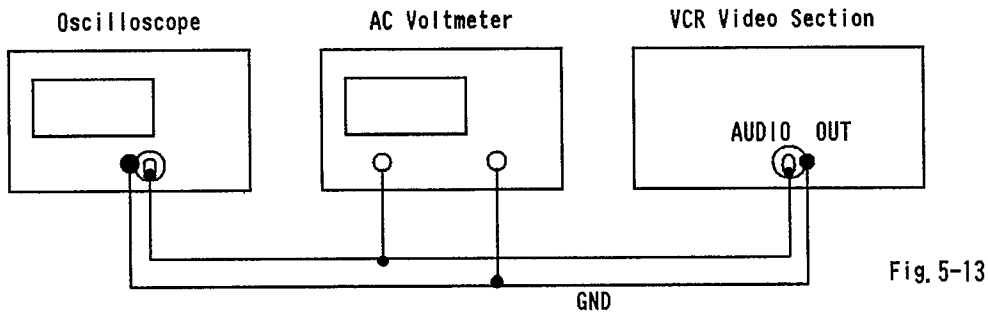

Fig. 5-13
1. Connect equipment as shown in Fig. 5-13.
Refer to Fig. 5-13